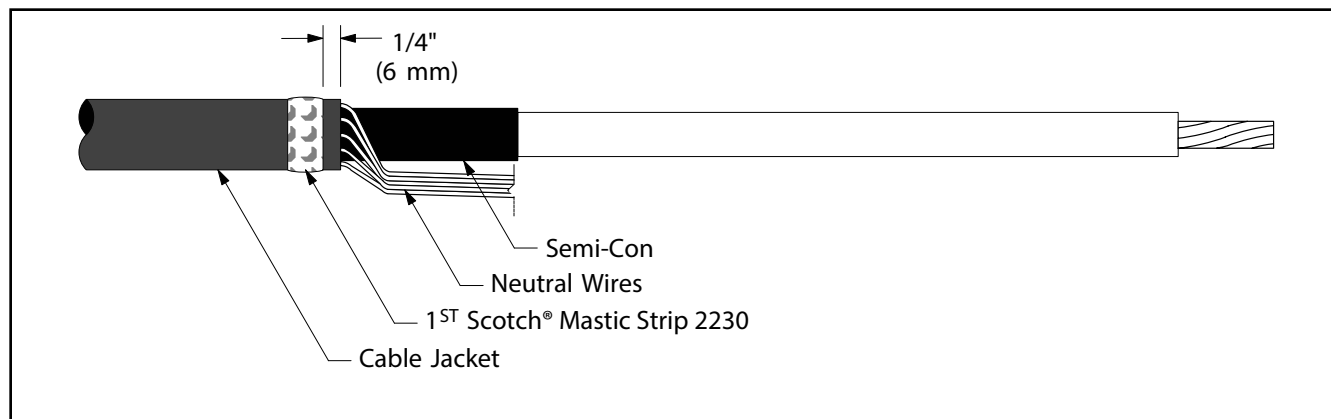

Figure 2
- 2.4 Select a Scotch® Mastic Strip 2230 from kit and remove white release liners. Using light tension, apply a **SINGLE WRAP** of mastic around the cable jacket 1/4" (6 mm) from cut edge (Figure 2). Cut off excess.